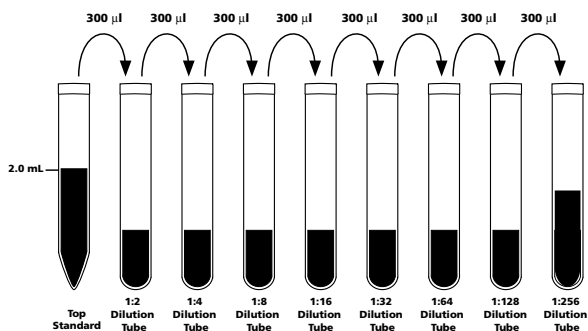

Figure 2. Preparation of Mouse Th1/Th2 Cytokine Standard Dilutions
5. Perform a serial dilution by transferring 300 µl from the Top Standard to the 1:2 dilution tube and mix thoroughly. Continue making serial dilutions by transferring 300 µl from the 1:2 tube to the 1:4 tube and so on to the 1:256 tube and mix thoroughly (see *Figure 2*). **Mix by pipette only, do not vortex.** Prepare one tube containing Assay Diluent to serve as the 0 pg/ml negative control.